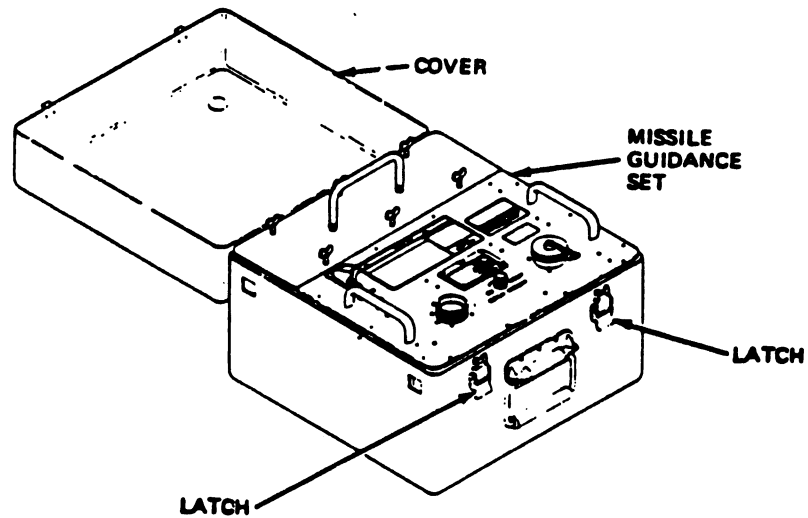

Fig 2-40. Missile guidance set (MGS).
Step 1. Open the cover by unlatching the two latches at the front of the MGS (fig 2-40). Remove the cover and stow it in a safe place in the jeep.